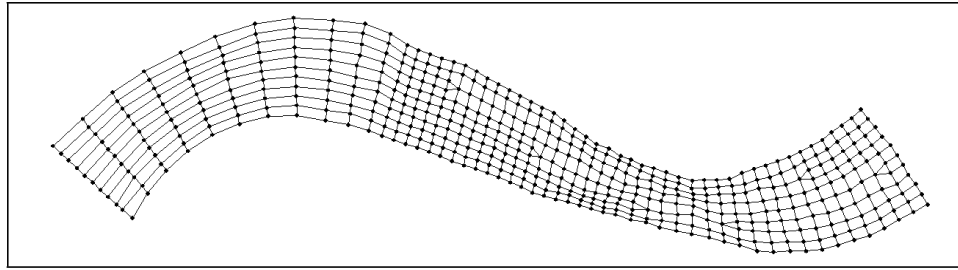

Figure 9 The finite element mesh after merging triangles
7. Continue to merge triangles in the where able to do so. Not all of the triangles can be merged. When finished, there should be only six triangles left in the finite element mesh. It should look like the image shown in Figure 9.